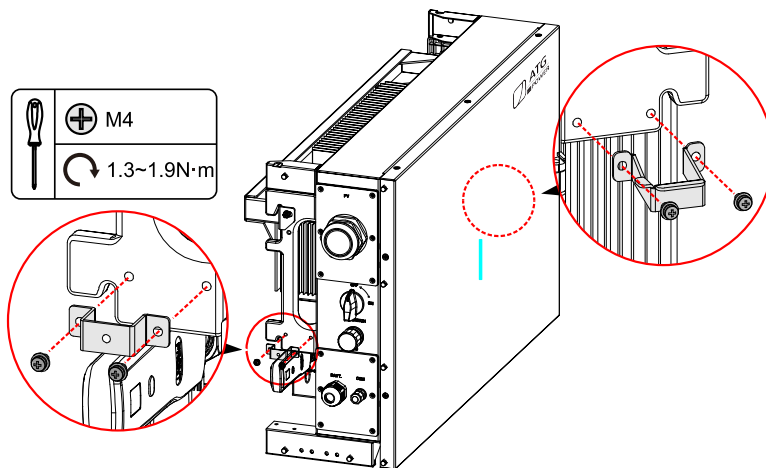

Figure3-49 Fix the bracket
Step 1 Fix the bracket (left) and bracket (right) with M4, as shown in Figure3-49.